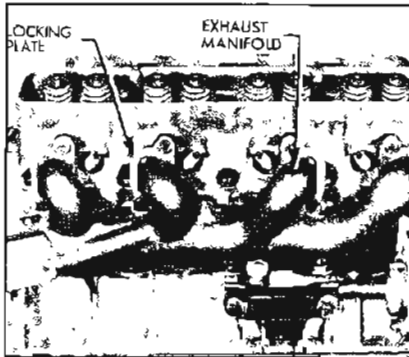

Figure 2-24—Exhaust Manifold Installation (V-8 shown)
3. Assemble exhaust manifold to cylinder head with bolts and locking plates as shown in Figure 2-24. Torque bolts to 10-15 ft. lbs.